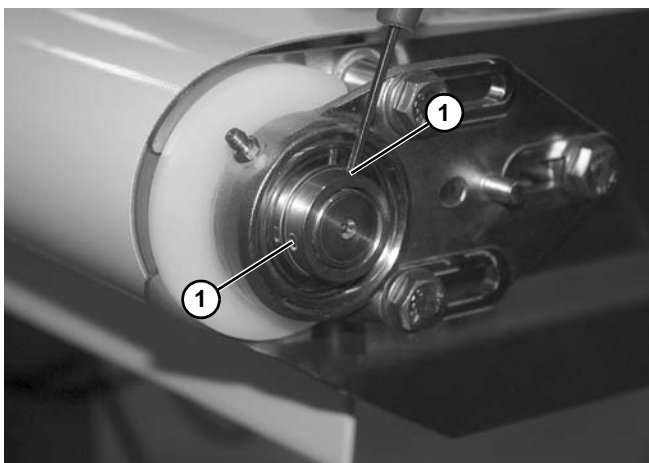

Figure 123
4. Loosen two set screws (**Figure 123, item 1**).